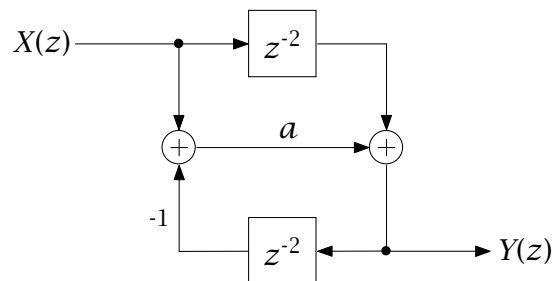

Figure 1: Interesting filter stage block diagram. The -1 indicates that the associated signal is multiplied by -1.
5. (10 pts) For the filter section shown in Figure 1 derive the transfer function
6. (10 pts) We will be making use of the Figure 1 filter section later in the midterm. In order to be able to scale out values properly to avoid overflow we need to know the two following input,  $X$ , to delay stage output transfer functions:
7. (10 pts) For the filter section shown in Figure 1 draw the transposed form.
Figure 2: Low pass filter using two interesting filter sections (Figure 1). The boxes labeled  $H_{a_0}(z)$  and  $H_{a_1}(z)$  correspond to individual interesting filter sections using the indicated  $a$  values.
8. (25 pts) Figure 2 uses two of sections shown in Figure 1 to implement a low pass filter. One section uses a value of  $a = a_0 = 1/8$  and the other uses a value of  $a = a_1 = 9/16$ . Use MATLAB and the subplot function to generate a sheet containing four plots (going top down):
- Magnitude of the transfer function of a single section as shown in Figure 1 with  $a = 1/8$ . `subplot(4,1,1)`.
- Magnitude of the transfer function of a single section as shown in Figure 1 with  $a = 9/16$ . `subplot(4,1,2)`.